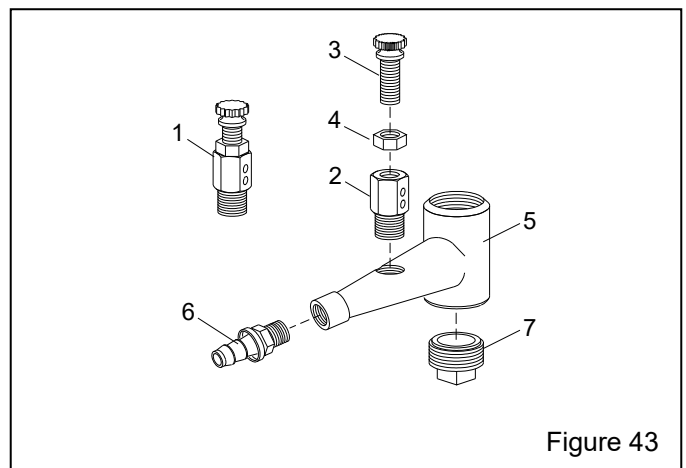

Figure 43
**9.3 Metering Valve – Figure 43**